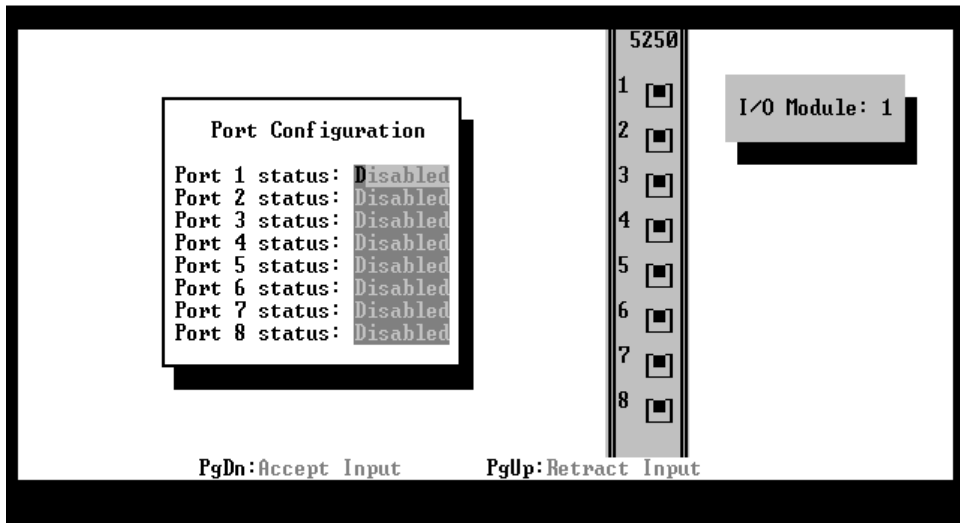

Figure 3-13. Port Configuration
3. Choose P:ort. A screen similar to Figure 3-13 is displayed.